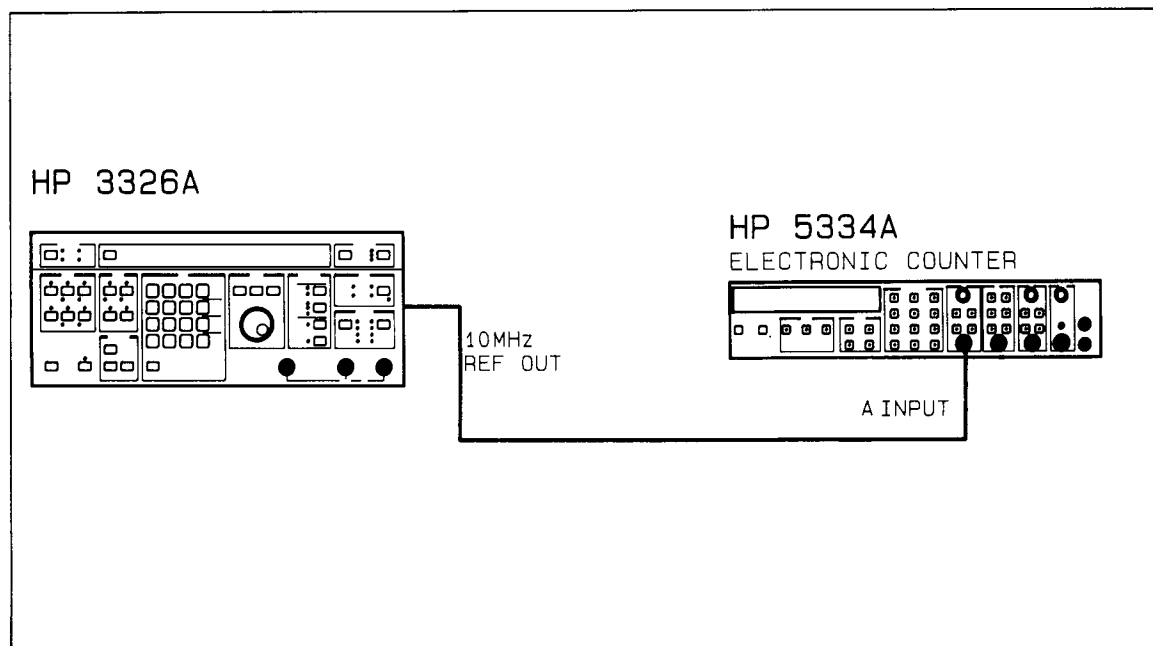

Figure 2-1. Frequency Accuracy Test
3. Connect the equipment as follows (illustrated in Figure 2-1):